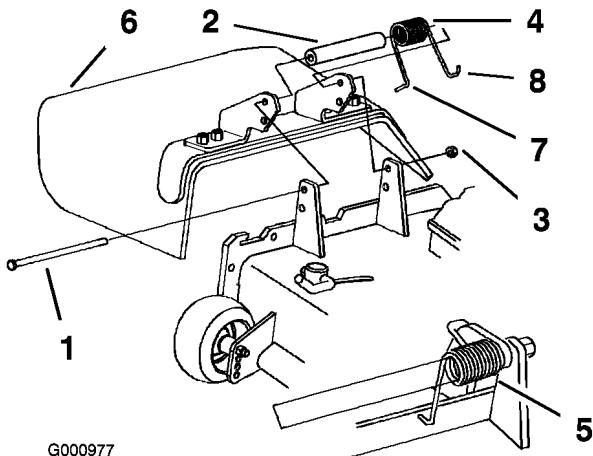

Figure 69
1. Remove the locknut, bolt, spring and spacer holding the deflector to the pivot brackets (Figure 69). Remove the damaged or worn grass deflector.
Note: Make sure the **L** end of the spring is installed behind the deck edge before installing the bolt as shown in Figure 69.
3. Install the bolt and nut. Place the **J** hook end of the spring around the grass deflector (Figure 69).